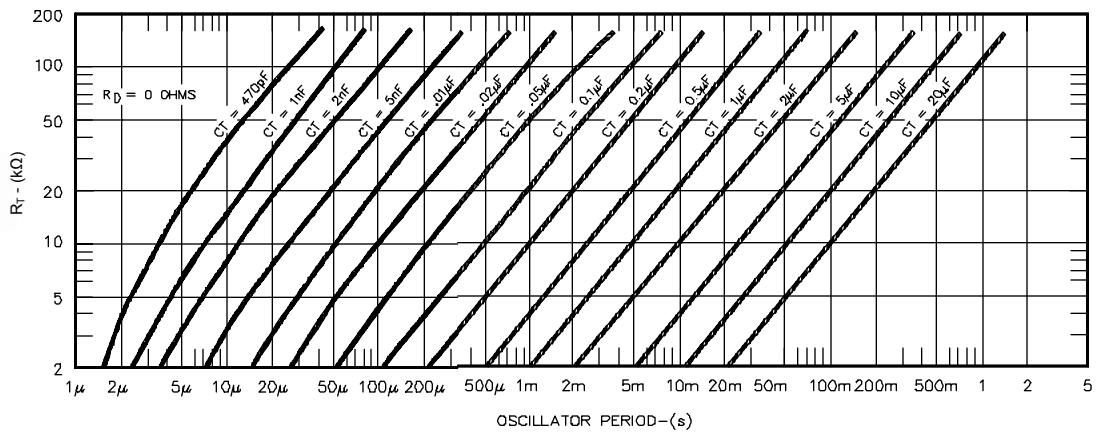

FIGURE 7.
1. With $R_D = 0\Omega$ (pin 11 shorted to ground) select values for R_T and C_T from Figure 7 to give the desired oscillator period. Remember that the frequency at each driver output is half the oscillator frequency, and the frequency at the $+V_c$ terminal is the same as the oscillator frequency.